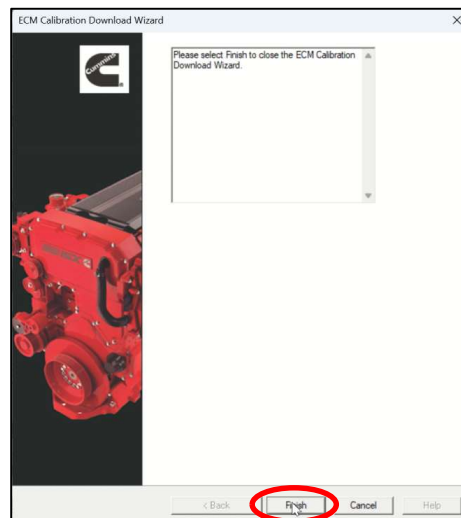

Figure 33
42. Select Finish on the next screen to close the ECM Calibration Download Wizard. See figure 33.